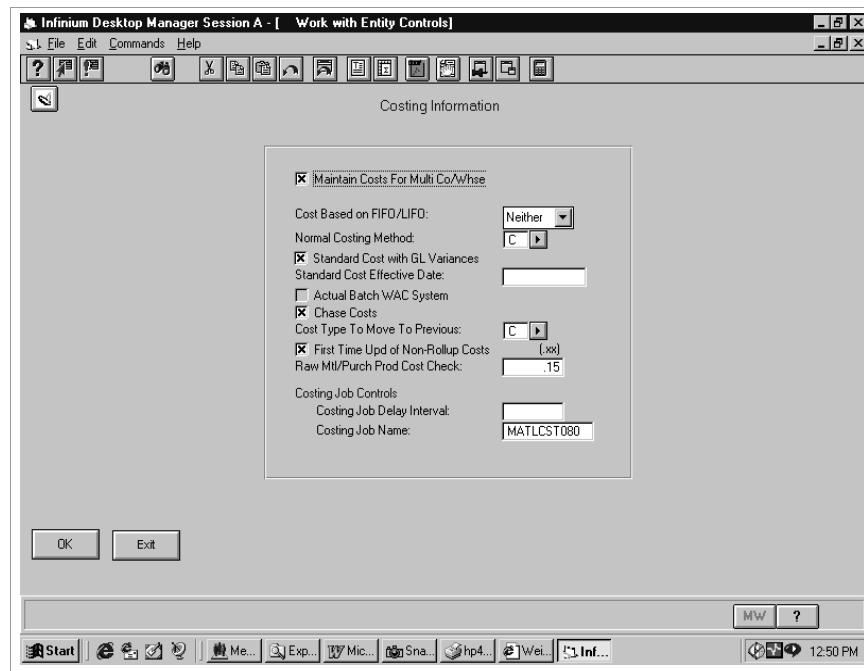

Figure 4-5: Work with Entity Controls Costing Information screen
- 8 Press Enter. The system updates the base data information and continues to the screen shown in Figure 4-5.